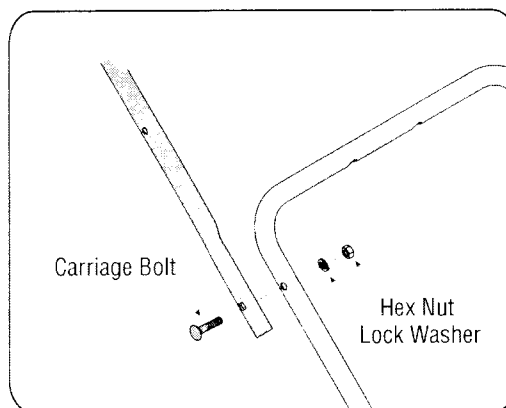

Figure 4: Attaching upper handle to lower handle.
2. Secure the upper handle to the lower handle using the carriage bolts, lock washers, and hex nuts from group 2 of the hardware pack. See Figure 4.